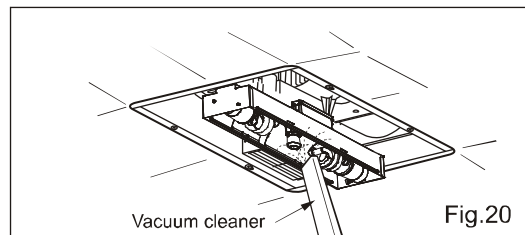

Fig.20
3. Remove dust and dirt from fan body using a vacuum cleaner. (Fig.20)